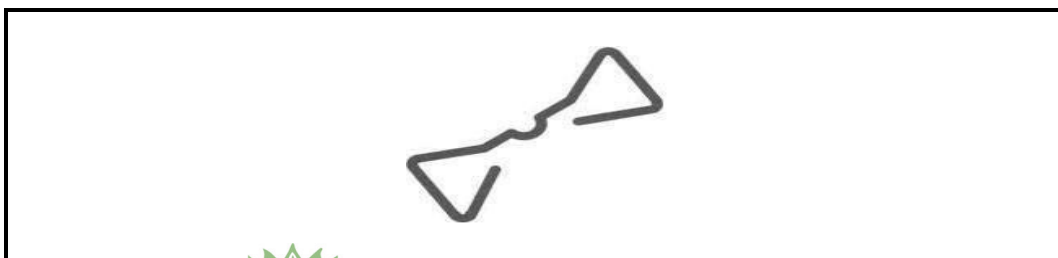

FIGURE 5.4
5.4 Identify the type of wall tie in FIGURE 5.4. (1)